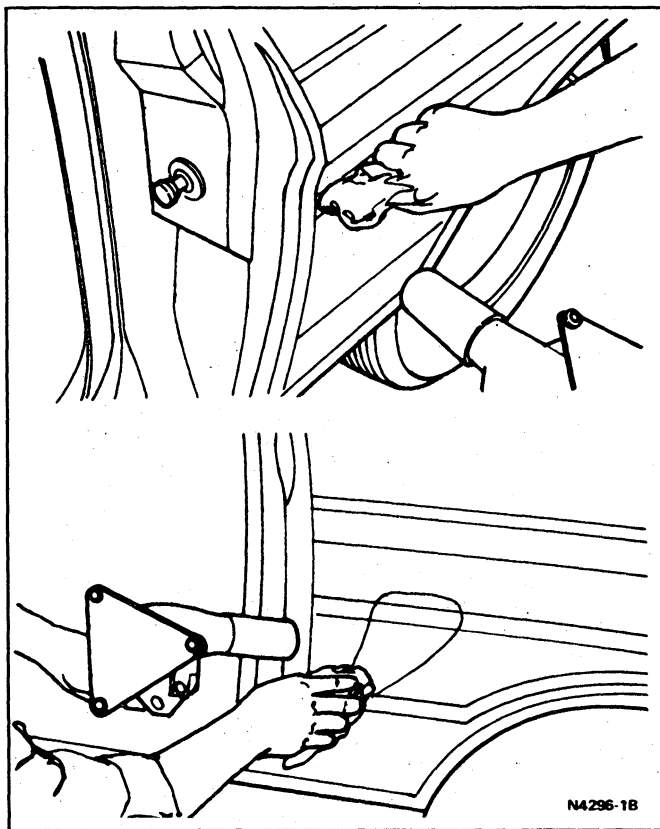

FIG. 5 Molding Striping into Recessed Area
7. Mold recessed areas into place using Rotunda Heat Gun 107-00301 or equivalent and a soft, clean cloth (Fig. 5).
7. Use Rotunda Heat Gun 107-00301 or equivalent as in Dry Method Installation, to mold decal into recessed areas and dry moisture as required. (Fig. 5).